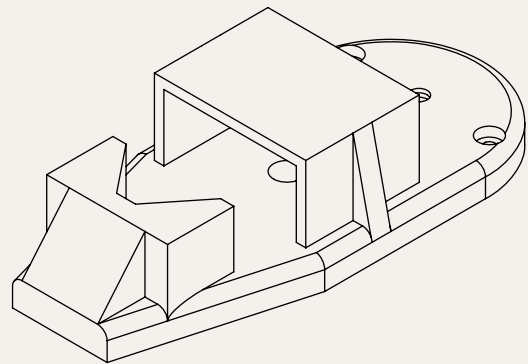
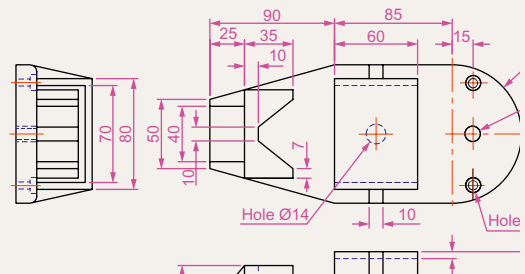

Fig. 7.32 Exercises 8 and 9
Fig. 7.33 Exercises 8 and 9
9. Construct the isometric drawing shown in Fig. 7.32 working to the dimensions given in Fig. 7.33.
8. Construct a third angle projection of the component shown in the isometric drawing Fig. 7.32 and the three-view first angle projection Fig. 7.33.